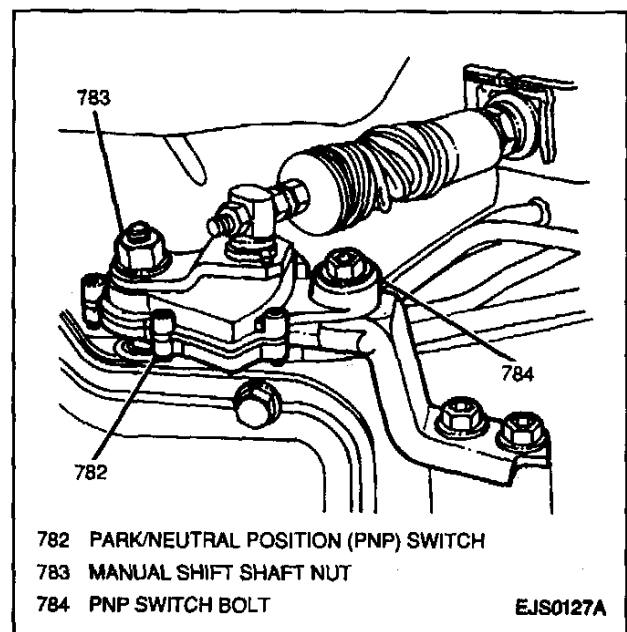

Figure 13—PNP Switch/Transmission Range Switch
Figures 13 and 14
4. One nut, one washer and manual shift lever from manual shift shaft (Figure 13).
5. One bolt and PNP switch from manual shift shaft (Figure 13).